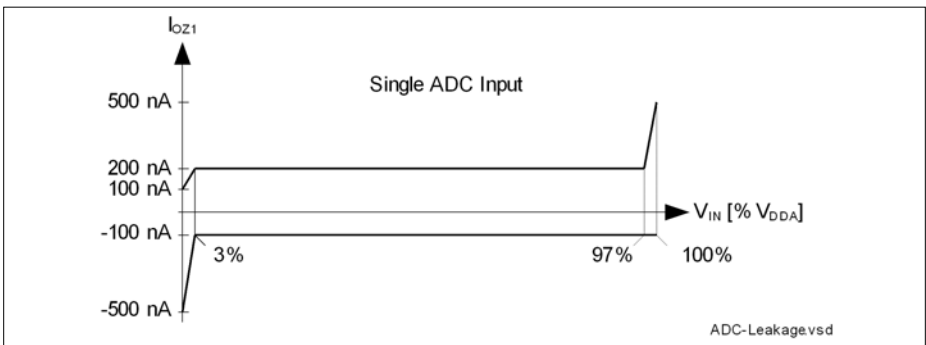

Figure 12 VADC Analog Input Leakage Current
- 3) The leakage current definition is a continuous function, as shown in figure ADCx Analog Inputs Leakage. The numerical values defined determine the characteristic points of the given continuous linear approximation - they do not define step function (see Figure 12).